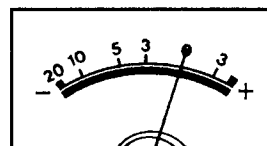

Figure E47
2. Adjust VR41012 (CH1) and VR41013 (CH2) so that the needle of Audio Level Meter (CH1 & CH2) reaches "0 ± 0.5" as shown in Figure E47.